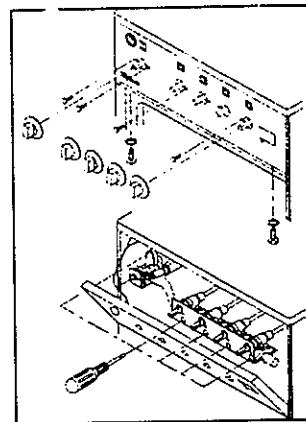

Fig. 15
- Replace the control knobs. (See Figure 15)